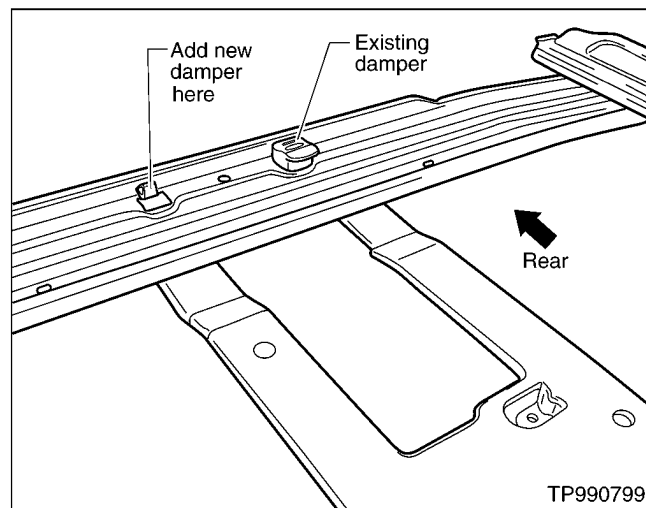

Figure 11
12. Install the new damper (on the empty metal tab) on the rear of the sunroof rail assembly (see Figure 11).